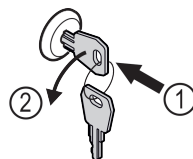

Fig. 161
- Insert the key. Fig. 161 (1)
- Turn the key anticlockwise by 90°. Fig. 161 (2)